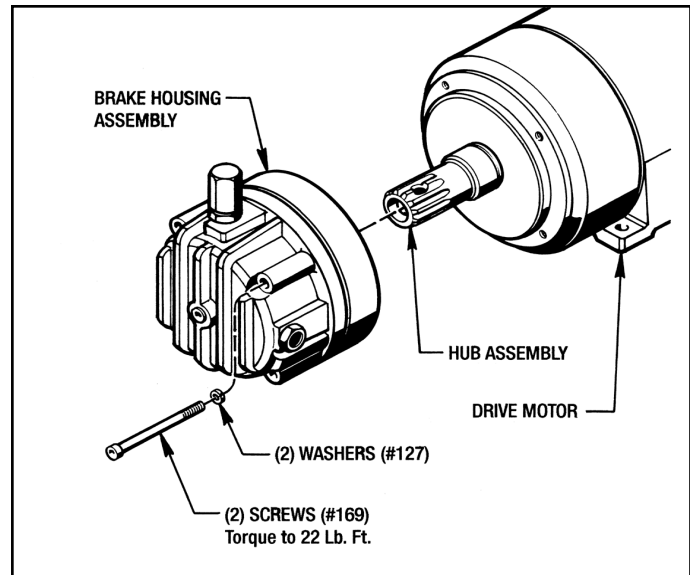

Figure 4 - Installing Brake Housing Assembly
(See Figure 4)
1. Slide the Brake Housing Assembly carefully over the Hub. (See Figure 4)